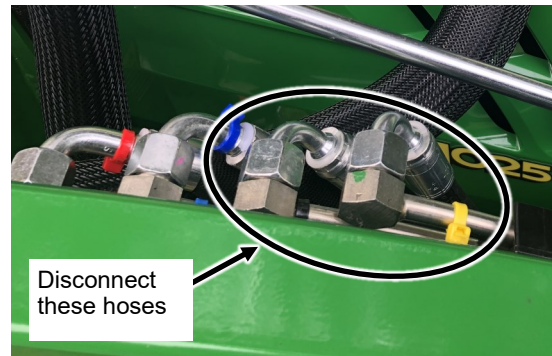

Fig. 2 (Remove Dump/Curl Hoses from Hardlines)
3. Locate the dump / curl cylinder hose connections from the loader hard lines. These should be the connections marked with black and yellow zip ties. See Fig. 2